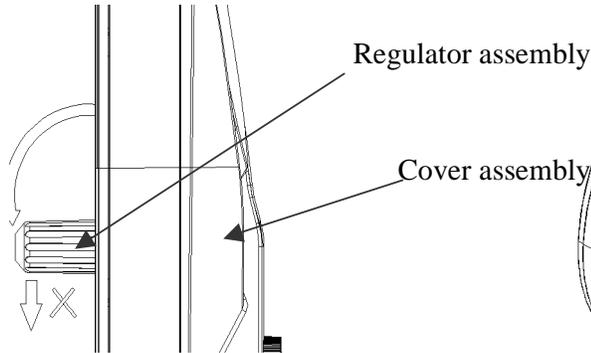
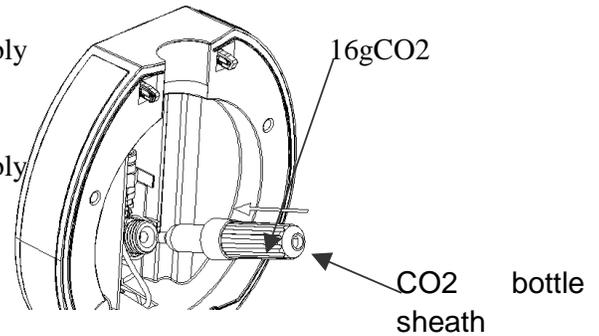
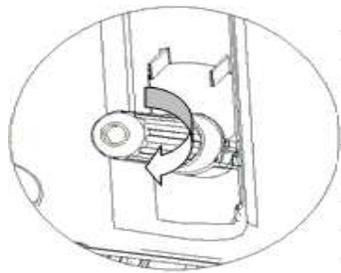

Figure 15
Figure 16
Figure 17
4. Loosen the CO2 bottle sheath (Show as figure 15), insert a non-threaded 16 gram CO2 cartridge in the sheath (Figure 16), and screw the sheath tightly until you hear it “click” or “pop” (Figure 17), which indicates that the cartridge seal has been pierced and the CO2 gas can flow into the keg freely. Make sure the CO2 bottle sheath is fixed tightly to avoid CO2 leakage. Then put CO2 bottle sheath into the top cover.